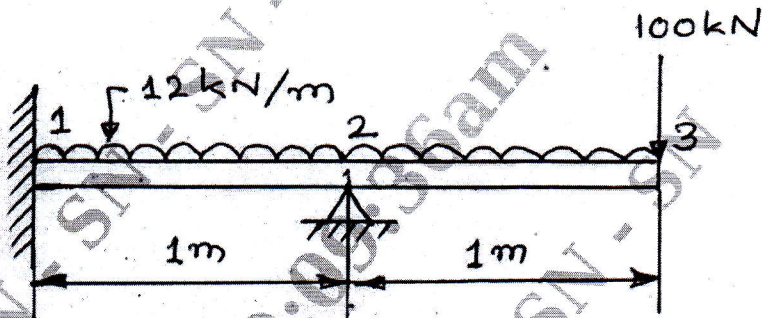

Fig. Q7 (b)
b. For the beam loaded as shown in Fig. Q7 (b), determine the nodal deflection and slopes. Take  $E = 200 \text{ GPa}$  and  $I = 4 \times 10^6 \text{ mm}^4$ . (12 Marks)